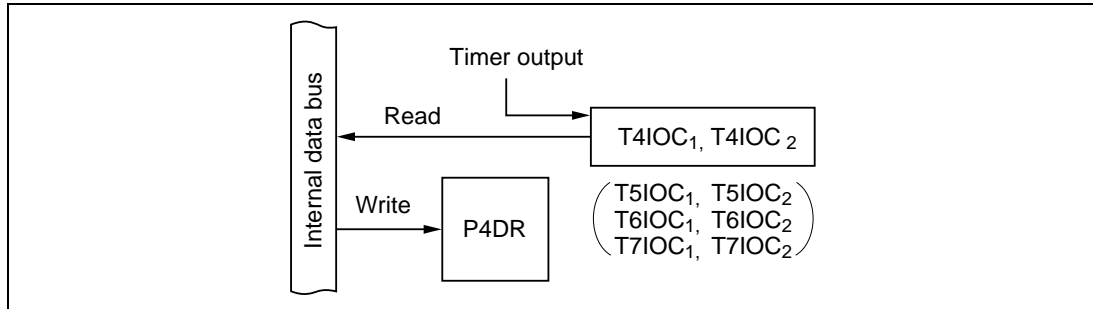

Figure 10-24 Output Compare Pins (Modes 1 to 7)
(3) Timer Output Pins (Modes 1 to 7): Figure 10-24 shows a block diagram illustrating the output compare function. Table 10-17 indicates register read/write data. When a pin in port 4 is used for output compare, the value in the port 4 data register (P4DR) has no effect on the timer output. When read, P4DR returns the timer output level (T4IOC₁, T4IOC₂, T5IOC₁, T5IOC₂, T6IOC₁, T6IOC₂, T7IOC₁, or T7IOC₂).